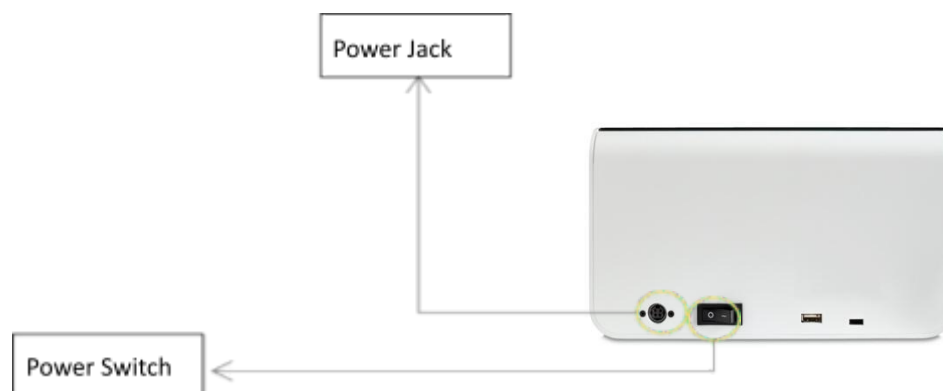

Figure 3.2.1 Rear image of the pixl™ Real-Time PCR Platform power jack and power switch locations.
- 1) Insert the DC connector into the power jack of the instrument until it clicks, indicating it is properly connected (Figures 3.2.1 – 3.2.3)